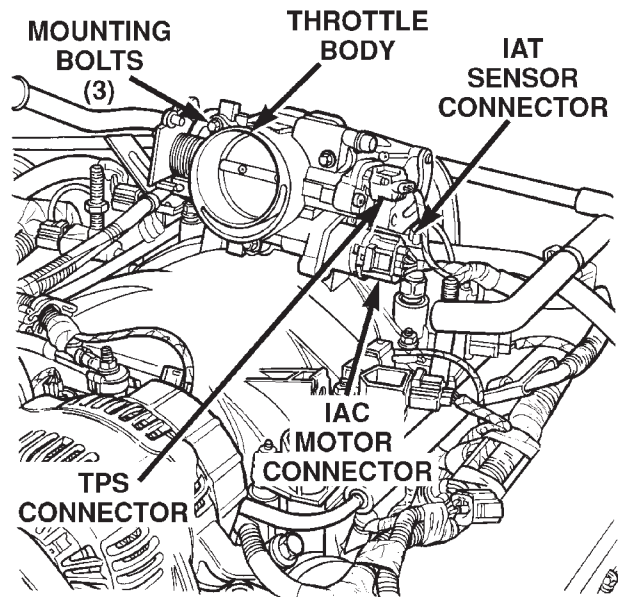

Fig. 11 IAT, IAC, TPS Sensor Locations—4.7L V-8 Engine
(17) 4.7L Engine: Verify Intake Manifold Air Temperature (IAT) sensor, TPS and Idle Air Control (IAC) motor connectors are firmly connected (Fig. 11). Be sure throttle body mounting bolts (Fig. 11) are tight.